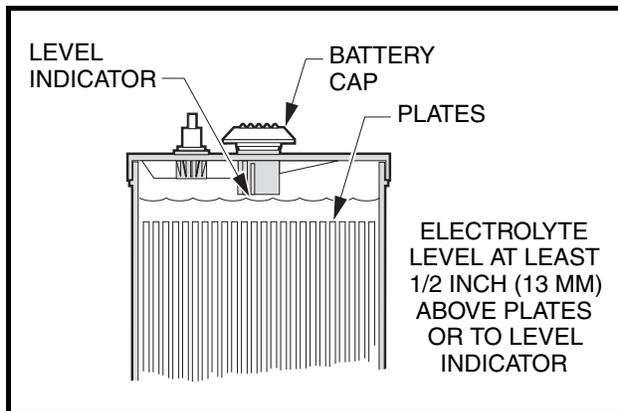

Figure 19 Electric Battery Electrolyte Level
2. The electrolyte level in the batteries should be checked weekly (**Figure 19**). Add water only after charging unless the electrolyte level is below the top of the plates. In this case, add just enough water to cover the plates, charge and then check the level again. Never charge batteries if plates are exposed above electrolyte level. For best battery life, use only distilled water. **See following CAUTION and NOTE.**